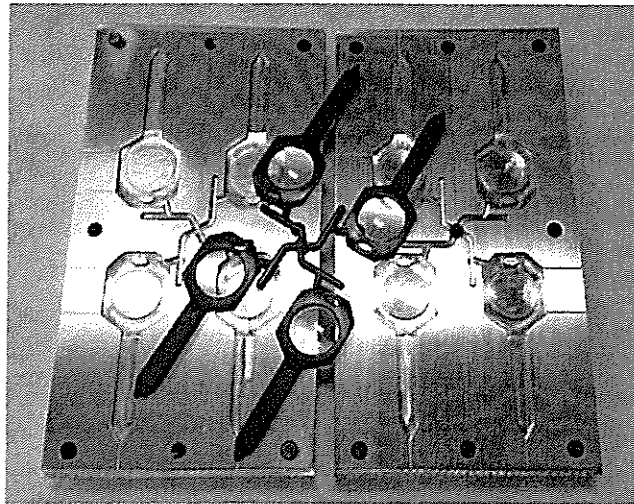

Figure Q2 (b) / Gambarajah S2 (b)
- b) **Figure Q2 (b)** shows the product from the injection moulding process. Which process would be suitable for making the product? With appropriate sketches, briefly describe the process.